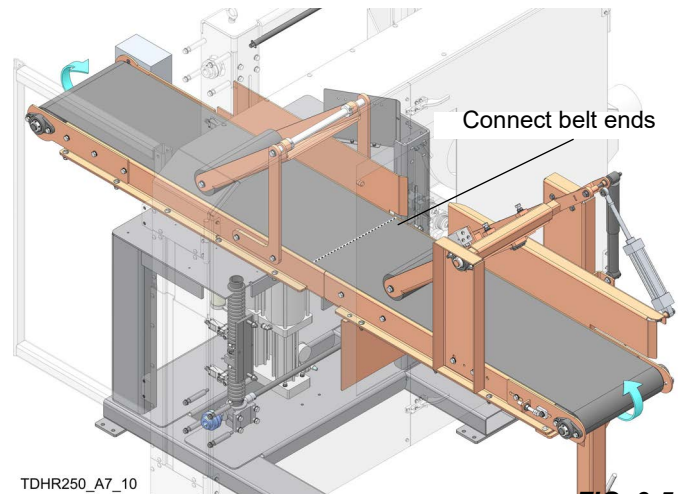

FIG. 3-5
- Route belt along underside of conveyor and around rollers on either end. See FIG. 3-5